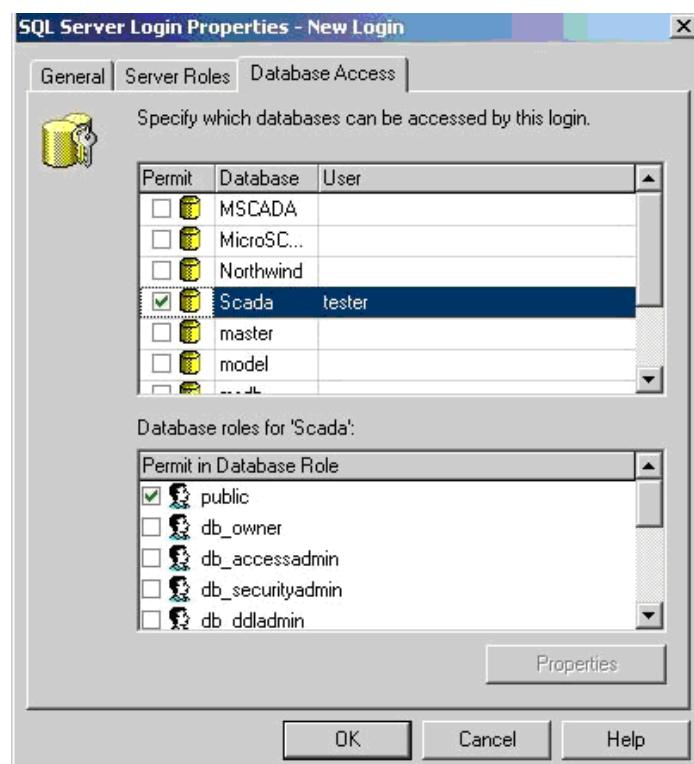

Figure 33: Defining database access
8. Define the database that the user can access by selecting the database defined before, see Figure 33.